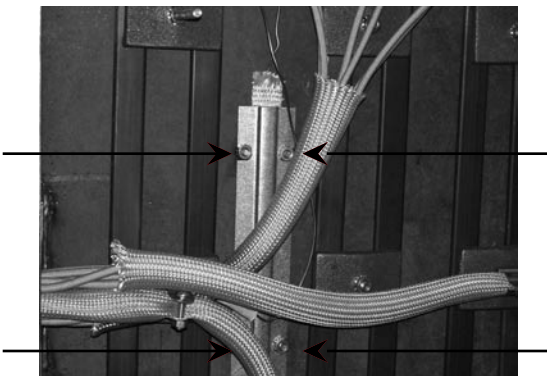

Fig. 2
- e) Remove four nuts which position the thermostat bulb cover in place. (See Fig. 2)